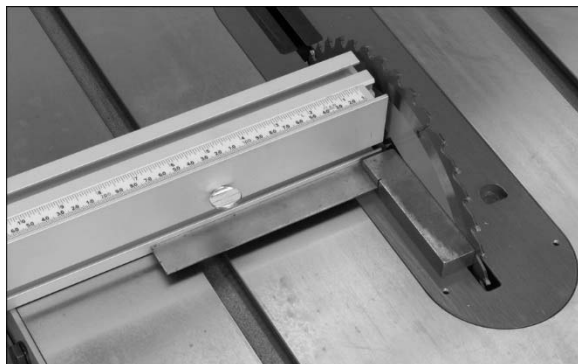

Figure 8-4
- Install fence in front position, and slide it laterally until it is close to blade, as shown in Figure 8-4.